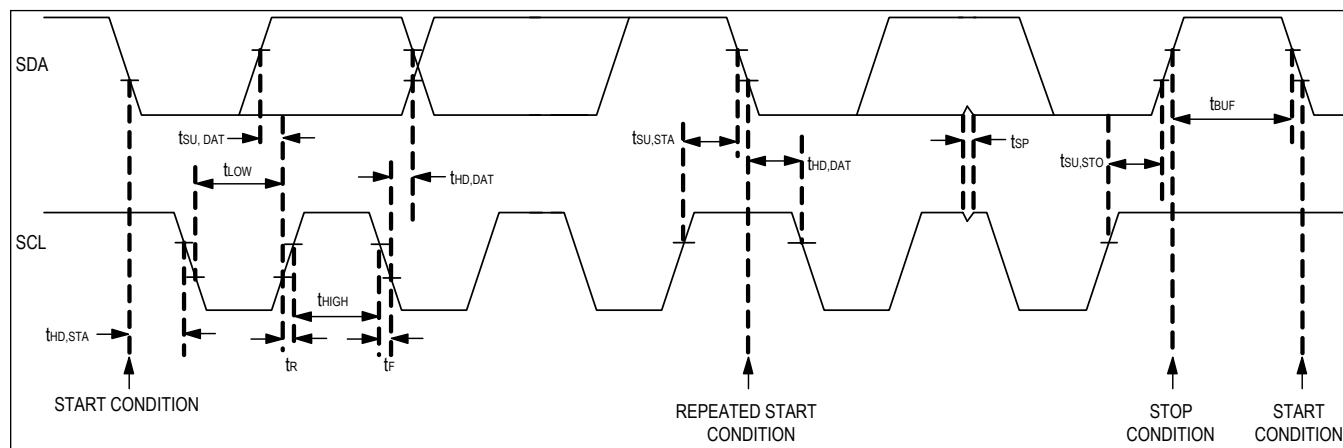

Figure 2. I2C Timing Diagram
The ICs feature an I2C, 2-wire serial interface consisting of a serial-data line (SDA) and serial-clock line (SCL). SDA and SCL facilitate communication between the ICs and the master at clock rates up to 3.4MHz. The master, typically a microcontroller, generates SCL and initiates data transfer on the bus. Figure 2 shows the 2-wire interface timing diagram. A master device communicates with the ICs by transmitting the proper address followed by the data word. Each transmit sequence is framed by a START (S) or Repeated START (Sr) condition and a STOP (P) condition. Each word transmitted over the bus is 8 bits long and is always followed by an acknowledge clock pulse.